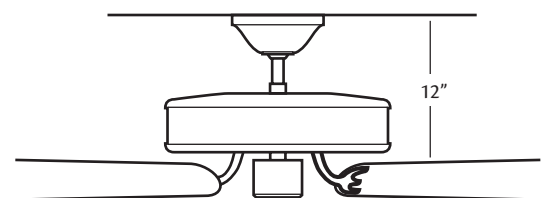

Figure 2 - Standard mounting
**Standard Mounting** (Figure 2) hangs from the ceiling by a downrod (included), for ceilings 8 feet or higher. For ceilings higher than 8 feet, you can purchase Hunter extension downrods. All Hunter fans use sturdy 3/4" diameter pipe to assure stability and wobble-free performance.